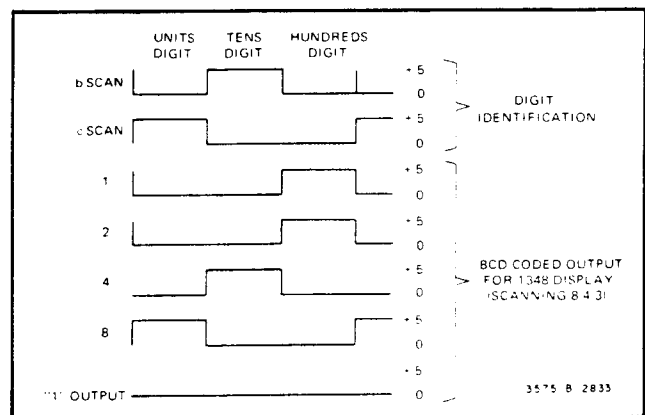

Figure 4-14. Scanned Panel Meter Output.
**4-83.** Figure 4-14 illustrates the scanned digital information as it appears at the output of the phase panel meter. In Figure 4-14, the output data corresponds with a phase reading of +134.8 degrees. The first digit, a one, is indicated by a grounded "1" line. The three remaining digits are scanned from right to left (8, 4, 3) and are synchronized by the two scanning signals, "b" scan and "c" scan. The scanning signals indicate which digit is being
4-85. Referring to Figure 4-14, note that the "units" digit (8) is transmitted when "b" scan is low and "c" scan is high. This condition is detected by the logic circuits (IC2, IC3) which enable IC7 and disable IC4 and IC5. The BCD data being transmitted is then stored in IC7 and applied to pins 1, 2, 26 and 27 of the Interface connector. As the scanning sequence continues, the "tens" digit (4) is stored in IC5 and the "hundreds" digit (3) is stored in IC4. The resulting outputs at the Interface connector are three BCD coded digits, a single line overrange ("1") digit and a polarity sign.